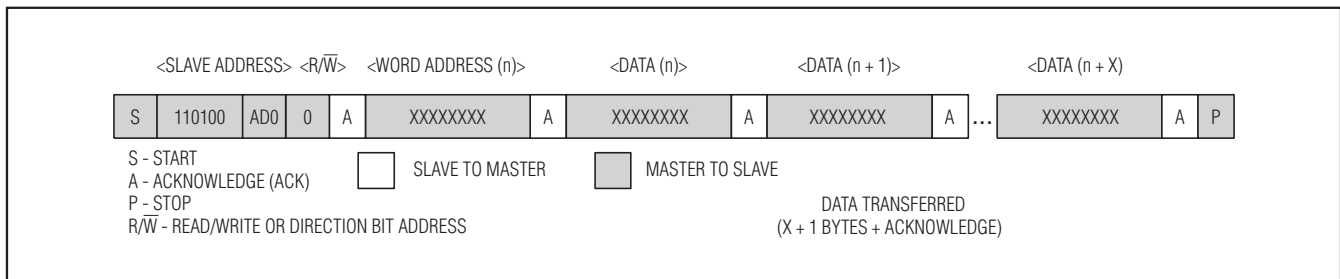

Figure 6. Data Write—Slave Receiver Mode
- 1) **Slave receiver mode (DS1372 write mode):** Serial data and clock are received through SDA and SCL. After each byte is received an acknowledge bit is transmitted. START and STOP conditions are recognized as the beginning and end of a serial transfer. Address recognition is performed by hardware after reception of the slave address and direction bit (see Figure 6). The slave address byte is the first byte received after the master generates the START condition. The slave address byte contains the 7-bit DS1372 address, which is 110100 and AD0. Each slave address is followed by the direction bit ( $R/\overline{W}$ ), which is zero for a write. The bit position signified by A is compared to the value on the AD0 input pin. After receiving and decoding the slave address byte, the device outputs an acknowledge on the SDA line. After the device acknowledges the slave address and write bit, the master transmits a register address to the device. This sets the register pointer on the device. After setting the register address, the master then transmits each byte of data with the DS1372 acknowledging each byte received. The master generates a STOP condition to terminate the data write.